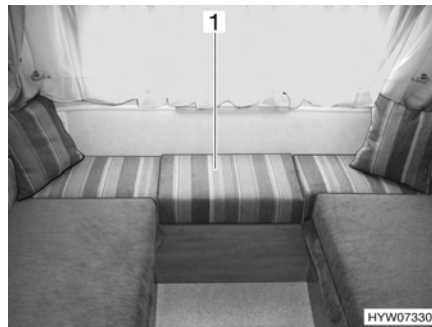

Fig. 30 Seating group after extending
- Insert the additional cushion (Fig. 30,1).